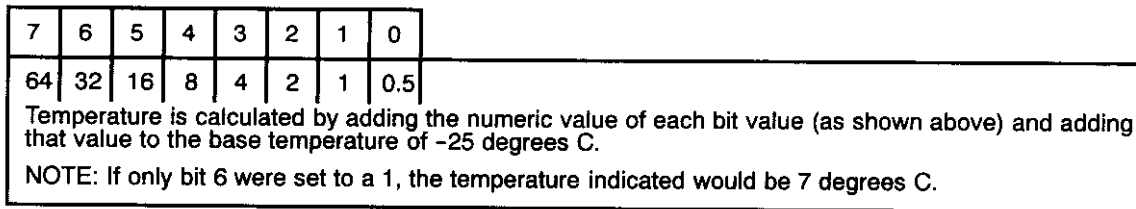

Figure 14. Elevation & Azimuth Temperature Word (Word 5 or 12)
- Word 5: Temperature see Figure 14
- Word 12: Temperature see Figure 14